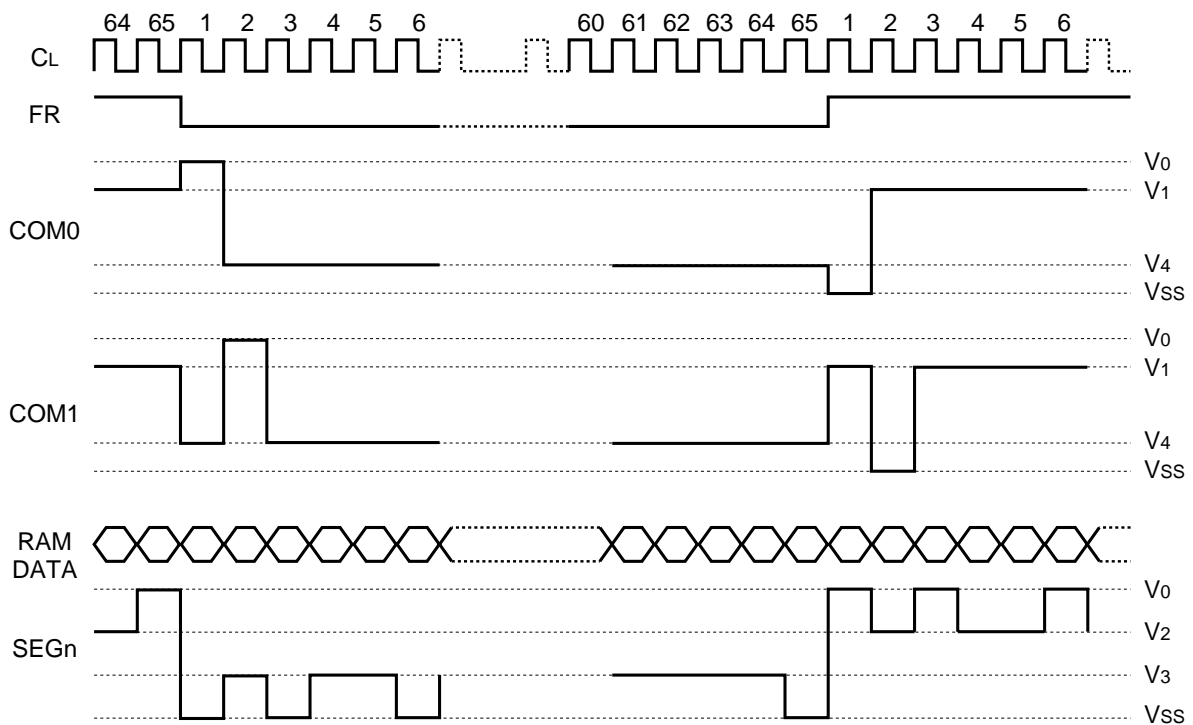

Figure 6
The circuit also generates COM scan signal and the LCD AC signal (FR) from the display clocks. As shown in Figure 6, the FR normally generates the 2-frame AC drive waveforms .